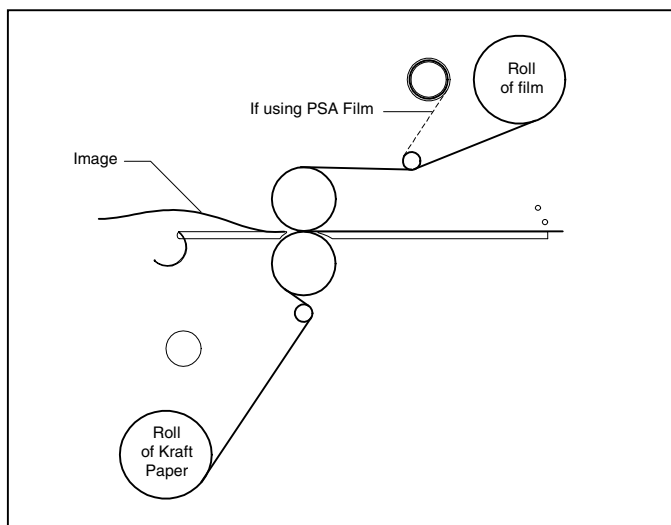

Fig. 33
**TIPS FOR SINGLE SIDED LAMINATION (Figure 33)**
1. Load the laminator as illustrated in Figure 33.